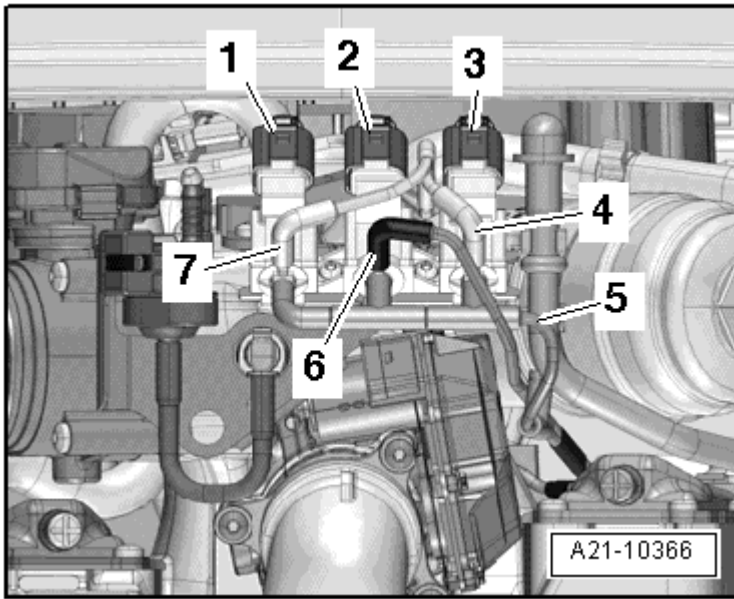

Fig. 10: Locating Secondary Air Injection Solenoid Valve And Intake Manifold Runner Control (IMRC) Valve -N316-
- Component location, refer to **Fig. 10**